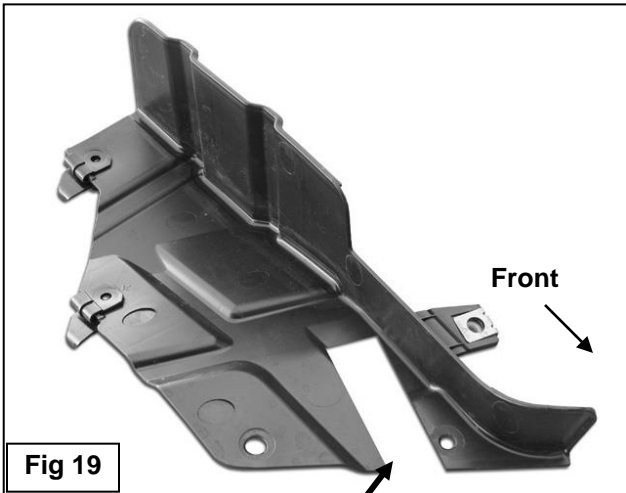

Fig 19
8. Level and adjust the Grille Guard properly and tighten all hardware. **IMPORTANT:** Do not over-tighten the (2) 8mm Hex Bolts attaching the Top Mounting Brackets to the tab on the plastic grille and cross member or you may damage the grille.
9. On **2010-13** models only, reinstall the plastic center splash guard using the factory hardware if removed in **Step 1**. Select the driver side plastic splash guard and hold it up in position against the bottom of the Mounting Bracket. Mark the area that needs to be removed from the splash guard to clear the Bracket. Check the location carefully and cut only the amount of plastic from the splash guard to clear the Bracket, **(Figure 19)**. Once the slot has been checked for clearance, reinstall the splash guard with the factory hardware. Repeat this **Step** to reinstall the passenger side splash guard.